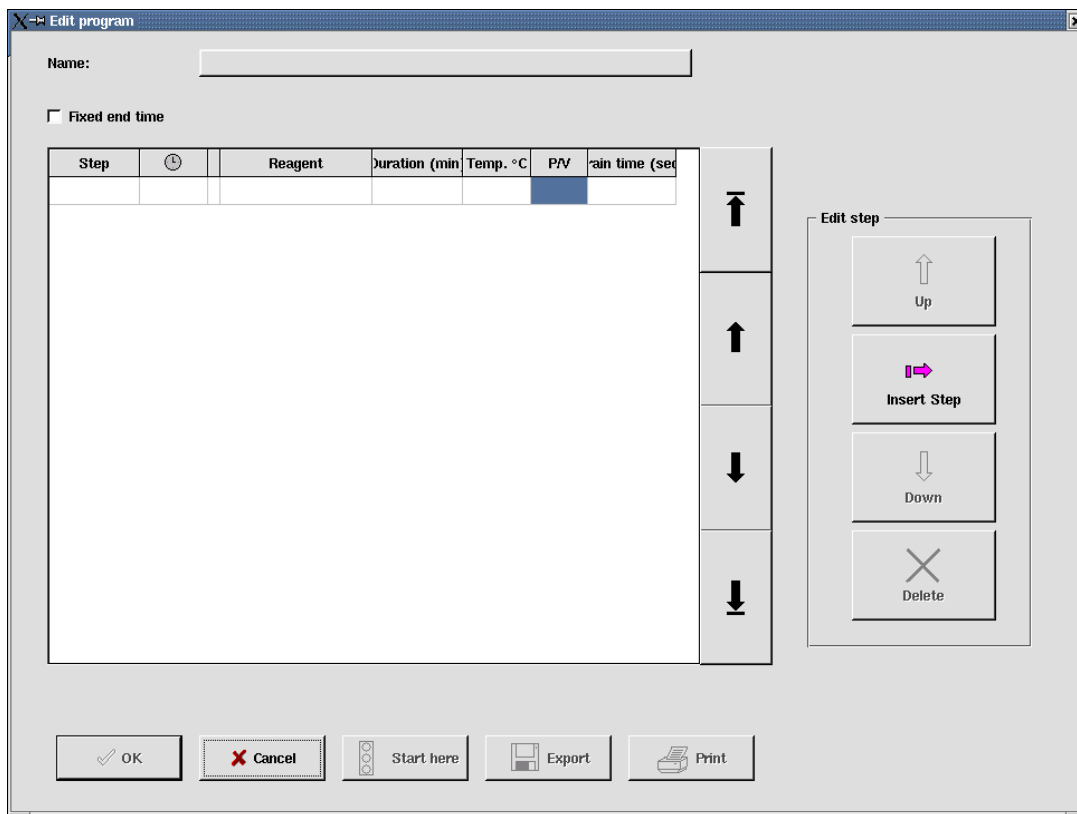

Fig. 49
- In addition to the already known buttons, there are buttons (fig. 49) on the right rim for replacing, inserting and deleting steps.